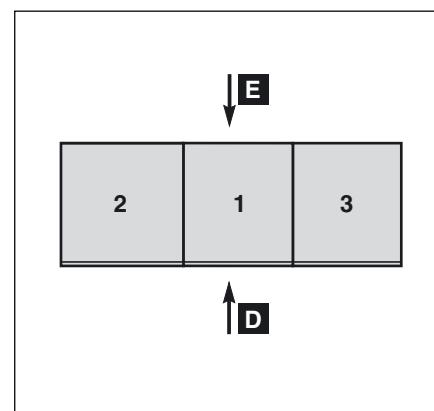

Fig. 6
- see figure 6 for a single-UPS MGE™ Galaxy™ PW unit with several battery cubicles;